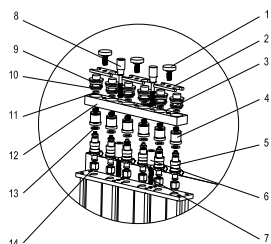

Fig. 07
- 4) Install the fuel distributor and the injector on the fuel distributor supporter with a proper adjustable screw and knurled nuts, and tighten two riffle screws (black). See Fig. 07.